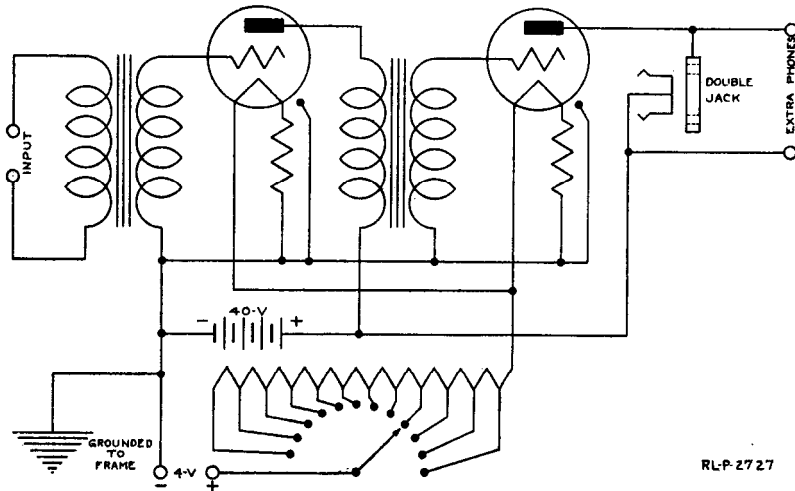

Fig. 66.—Schematic diagram of connections in the BC-44-A amplifier.
3. Examine the wiring of the set and compare it with the wiring diagram shown in Fig. 66. Note that the same "B" battery is used for both plate circuits.